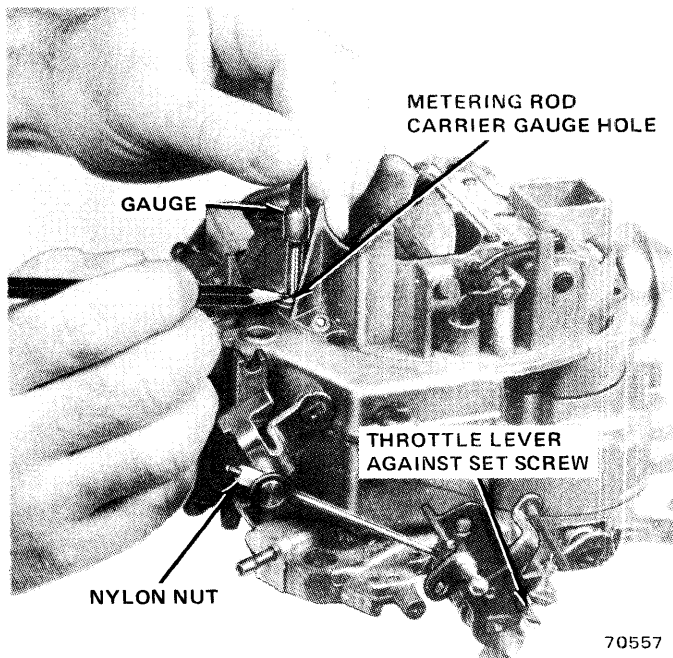
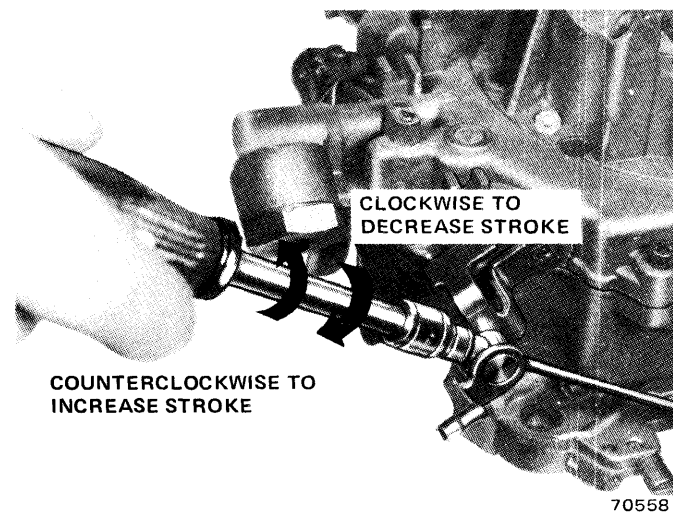

Fig. 4-129 Gauging Metering Rod Carrier Stroke
Fig. 4-130 Adjusting Metering Rod Carrier Stroke
(2) Stop engine. Remove plug from metering rod gauge hole (fig. 4-129).
(3) With throttle at idle setting established previously, insert any suitable tool into gauge hole until it rests on vacuum piston adjusting screw.
(4) Scribe mark on gauge flush with top of gauge hole boss (fig. 4-129).
(5) Move throttle to wide-open position. Gauge will be pushed up by vacuum piston. Make second mark on gauge flush with top of gauge hole boss.
(6) Return throttle to idle position and remove gauge. Measure distance between scribe marks. Refer to Specification for correct metering rod carrier stroke.
(7) If scribe marks indicate incorrect stroke, adjust by turning nylon nut counterclockwise (away from carburetor) to increase stroke. Turn nylon nut clockwise (toward carburetor) to decrease stroke (fig. 4-130).